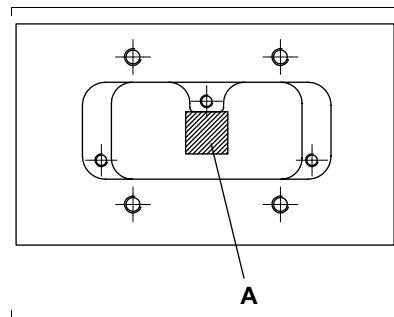

Fig. 29 Position of thermal conducting foil
2. Remove the protective film from the new thermal conducting foil **A** and bond the thermal conducting foil to the bottom of the sensor hole, position see Fig. 29, page 40.